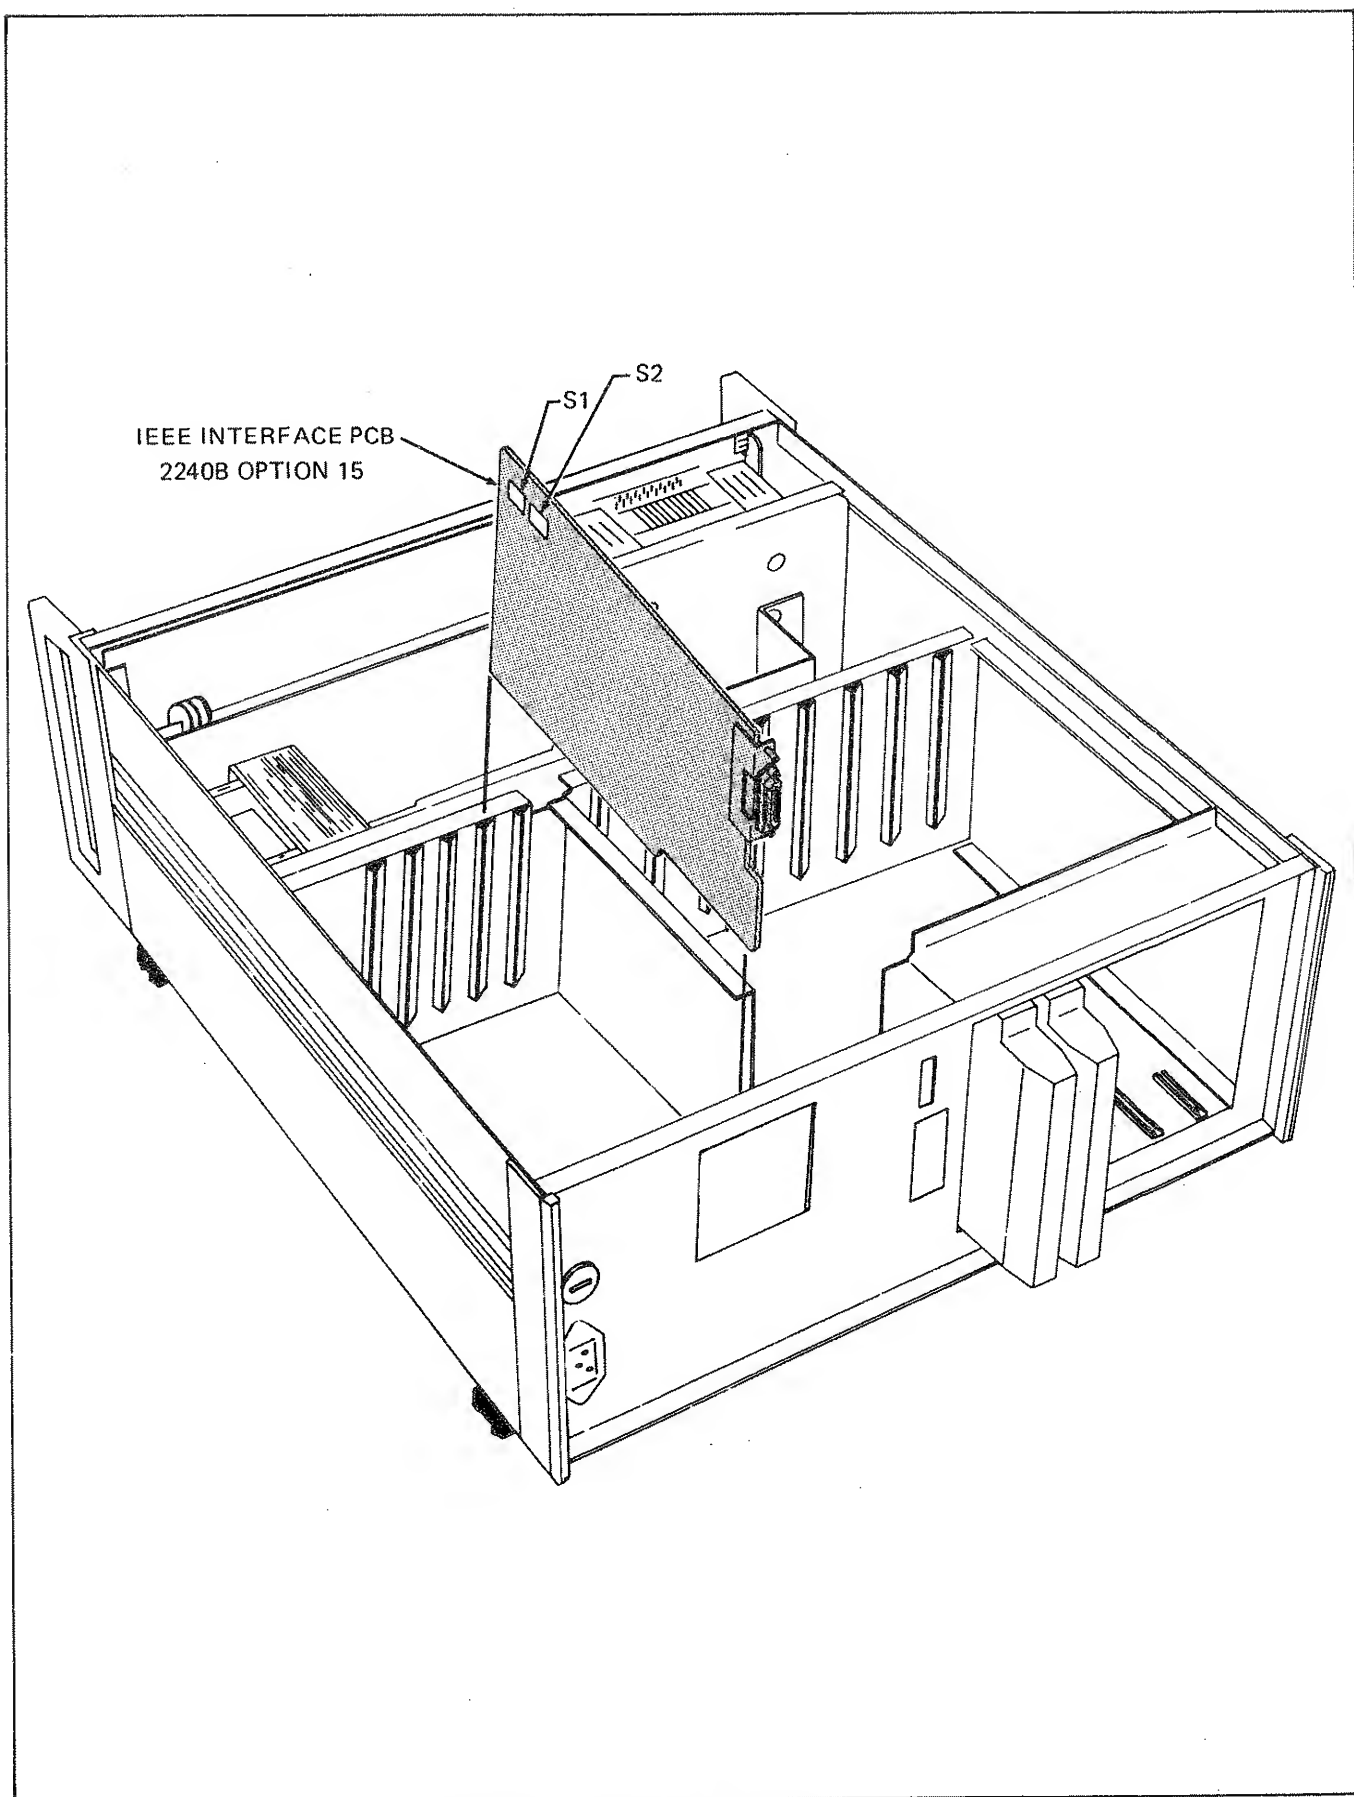

Figure 615-1. Installation and Switch Locations
615-9. The IEEE Interface PCB can be installed in any one of the data logger I/O slots shown in Figure 615-1. To install the pcb in a data logger, use the following procedure:
3. Locate switch S2 on the pcb as shown in Figure 615-1. S2 is used to assign the IEE-488 Bus address code to the pcb.
5. Locate switch S1 on the pcb as shown on Figure 615-1.